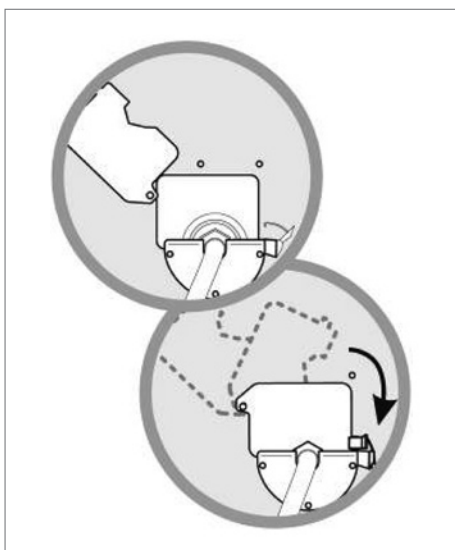

Fig. 14
- While holding the bottom port firmly, close the mobile jaw of the gate. Ensure that the groove of the bottom port is captured by both halves of the gate to prevent movement of the bottom port during filling. (see Fig. 14).